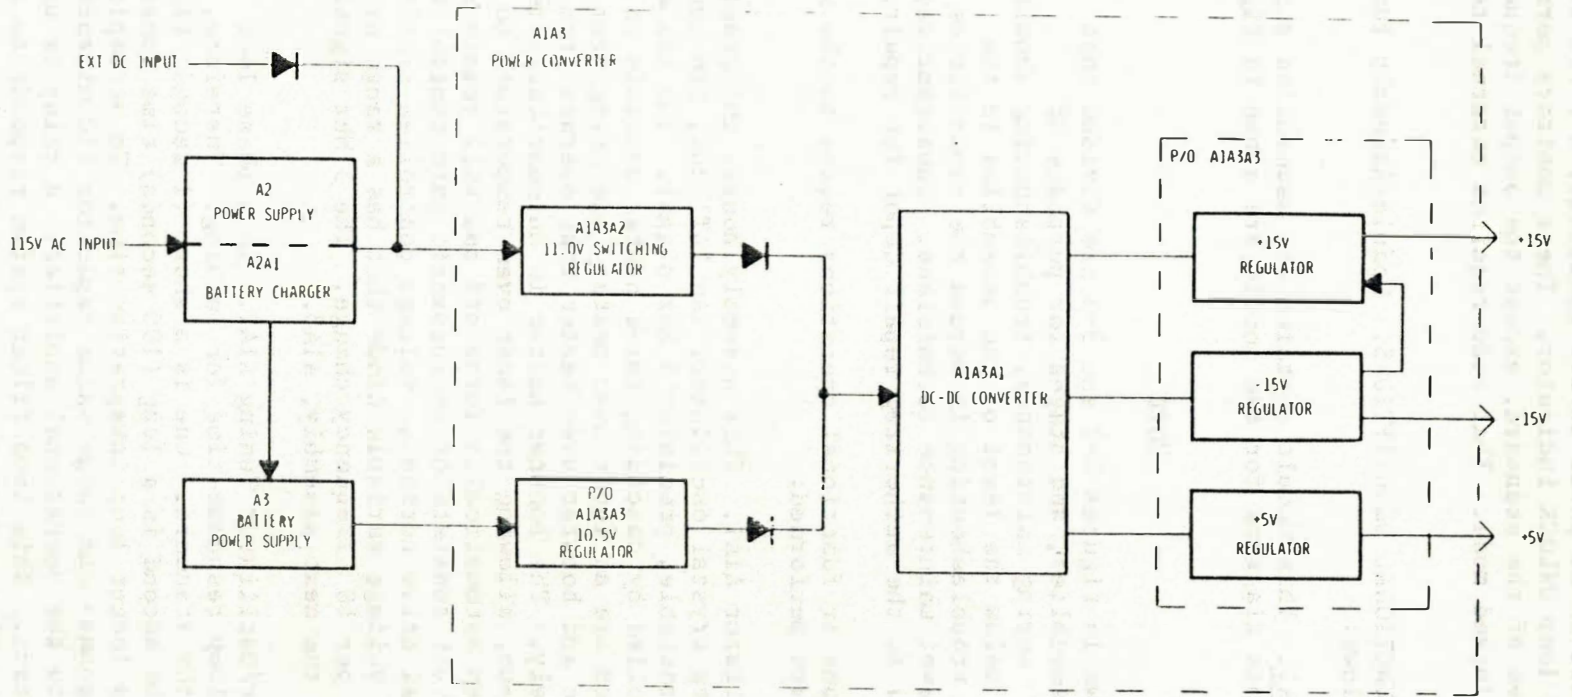

Figure 3-3. Power Control and Distribution Functional Block Program
a. Rf Oscillator A1. This module contains six assemblies shown in figure 1-2. The functional block diagrams for the module are shown in figure 3-2 and figure 3-3.
(3) Power Converter AlA3. The block diagram of the power supply system is shown in figure 3-3. The power converter assembly accepts three dc input power sources and converts them to regulated +15 volts, -15 volts and +5 volts dc for the standard. The conversion involves the use of a switching regulator, which accepts either external dc input (22 volts to 30 volts) or +22 volts from a rectified and filtered ac source. The output of this switching regulator is set for +11.0 volts. The battery pack A3 output is regulated to 10.5 volts through linear regulator AlA3A3. Both the 11.0 volt output and the 10.5 volt output are OR-gated to the input of dc/dc converter AlA3A1. Normally the 11 volt output operates dc/dc converter and the 10.5 volt output is used as a standby that only operates when both inputs to the switching regulator are absent. The outputs of the dc/dc converter are further regulated to +15 volts, -15 volts and +5 volts. The alarm relay is located within this assembly to sense the absence of ac power and automatically switch in the external dc input power, when available, or the battery power supply. The remote alarm indicator is also activated.
(4) 1 PPs Generator and Frequency Control AlA4. Two independent circuit sections are housed within this assembly.